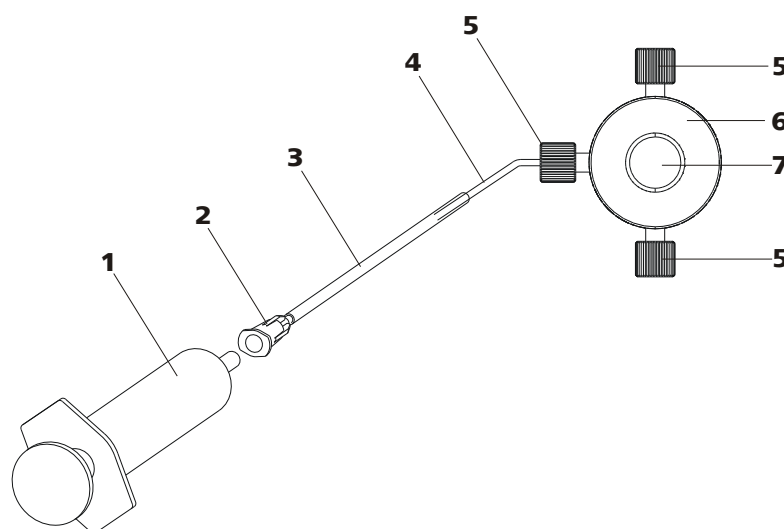

Figure 18 Deaerate the high pressure pump
Deaerate the high pressure pump as follows (see figure 18, page 33):
- Insert syringe (18-1) in the Luer connector (18-2) of the purging needle (see figure 18, page 33).